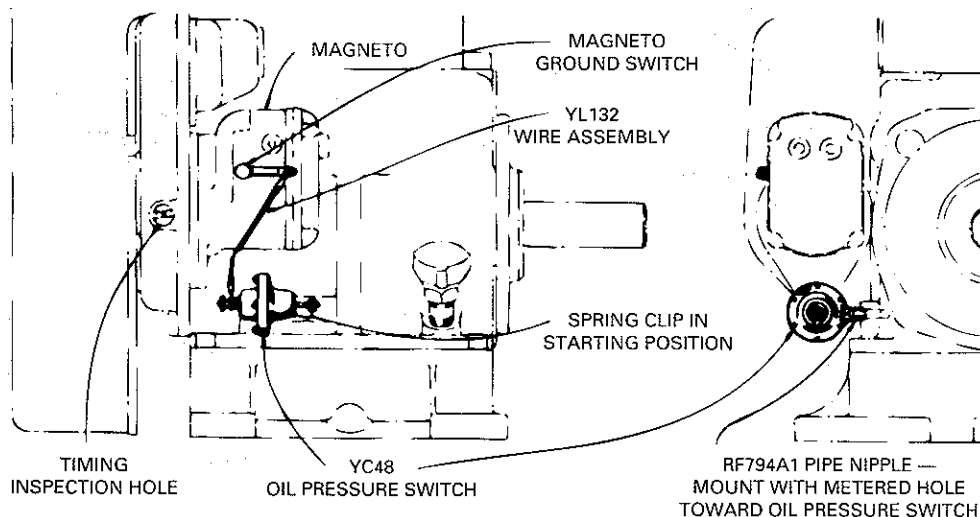

Fig. 3. Oil pressure switch mounting, with magneto ignition
For engines with magneto ignition, use a YC48S1 oil pressure switch kit. Mount switch as follows (see Fig. 3, page 18):
3. Mount YC48 oil pressure switch to pipe nipple, in position shown in Fig. 3.